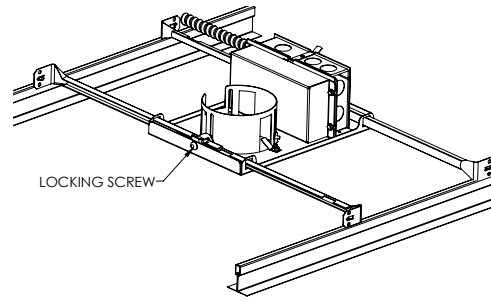

FIGURE 2
1. Loosen locking screws to extend hanger bars. "See Figure 2.